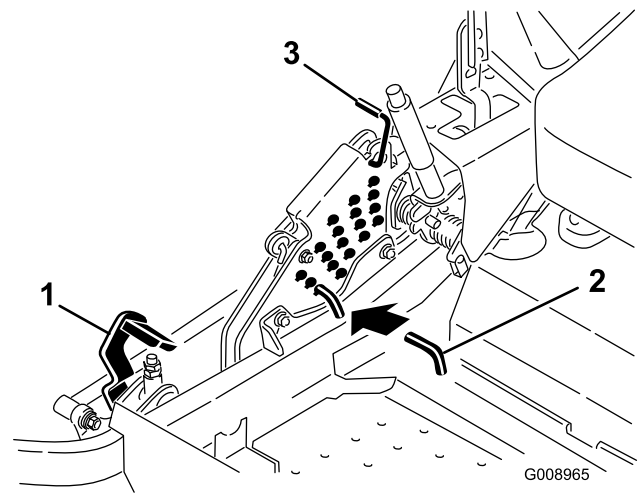

Figure 91
5. Push the deck lift pedal all the way forward and the deck will latch at the 5 1/2 inch (14 cm) transport position (Figure 91).